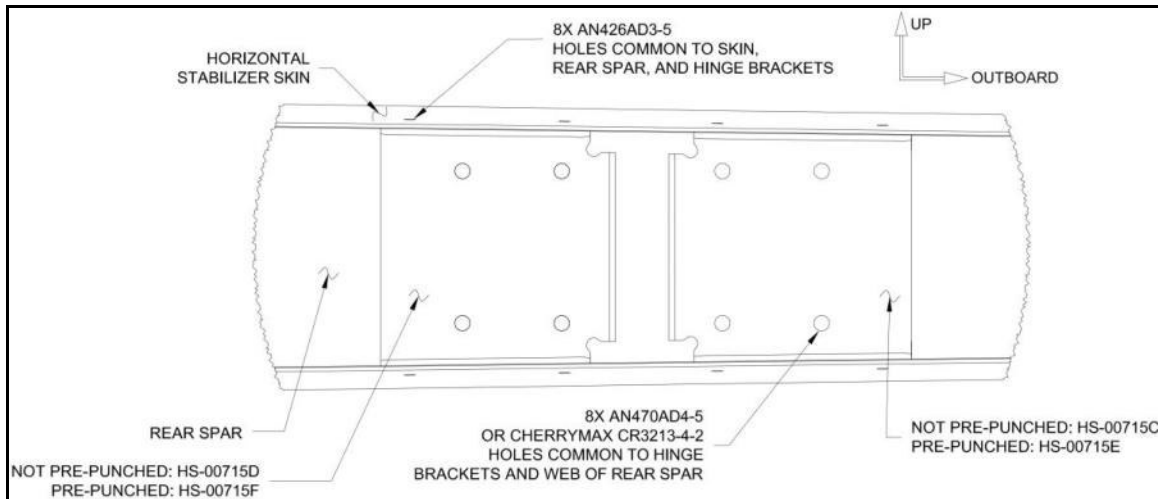

FIGURE 5 - HINGE BRACKET INSTALLATION
Step 7: Install hinge brackets to the rear spar as shown in Figure 5 below. See Figure 5 for rivet callouts.